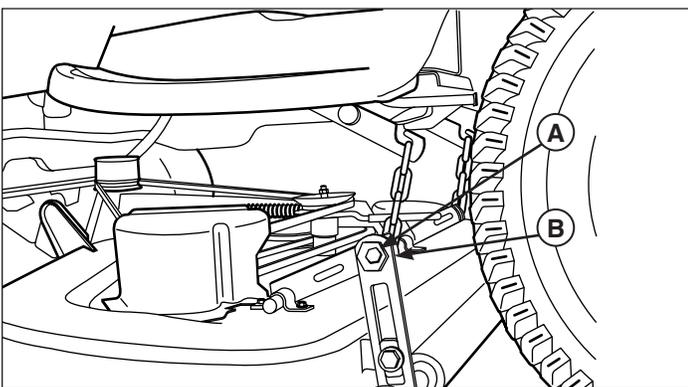

Figure 18
5. Loosen the outside nut (**A**, Figure 18). Turn the eccentric nut (**B**) to raise or lower left-hand side of mower. When mower is level, hold the eccentric nut while tightening the outside nut.